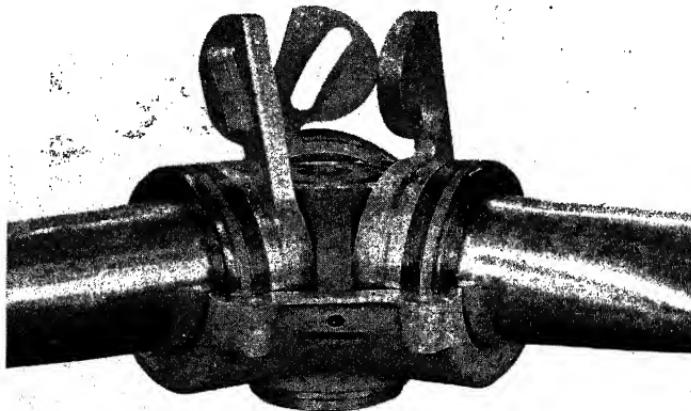

FIG. 12.—Thrust bearing retainers between the thrust races.
14. Place the thrust bearing retainers in position between the thrust races (Fig. 12).